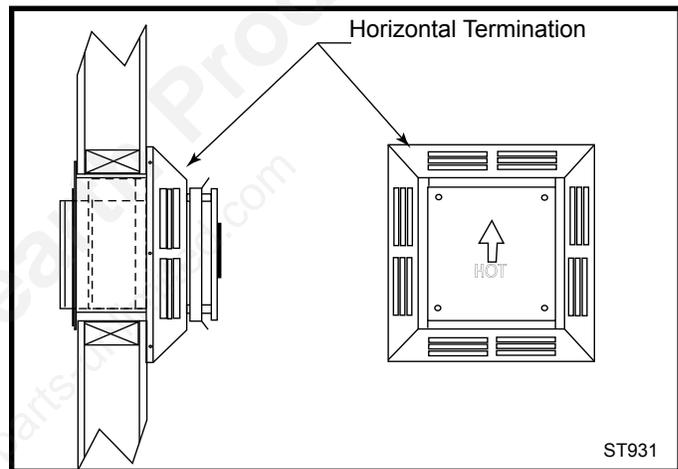

Fig. 42 Horizontal termination.
6. Install the horizontal termination to the exterior wall using four (4) all purpose screws through the holes located at each corner of the termination. Make sure the arrow (embossed on the front of the termination) is pointing up. (Fig. 42) If the house has vinyl siding, a Vinyl Siding Standoff (VS) must be installed prior to installing the horizontal termination. Refer to the appliance manufacturer